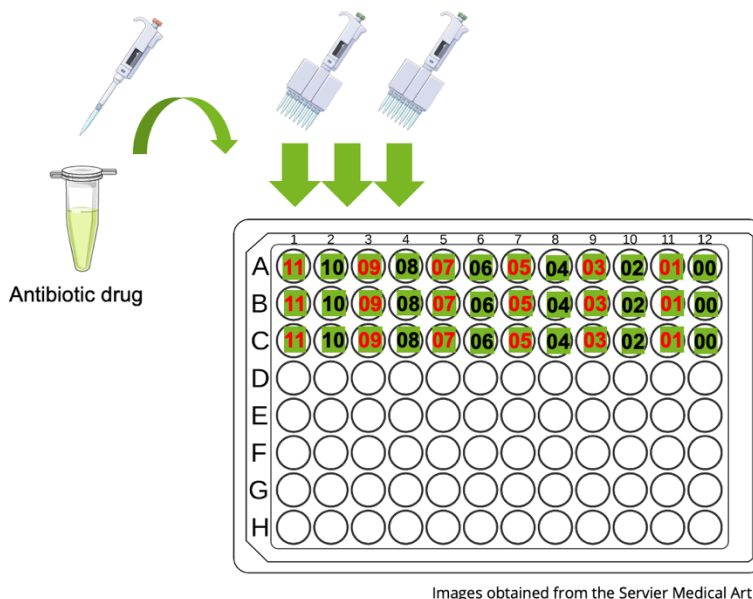

Figure 2. Experimental design and pipette scheme of IC50 determination of antibiotic drug against bacteria.
- Eleven antibiotic drug concentrations were co-cultivated with bacteria at 37 degrees for 15 hours. The bacterial growth curve was monitored every hour at 600 nm. The obtained bacterial growth from eleven concentrations of antibiotic drugs was compared to control bacterial growth without the drug in the last column. Therefore, there were twelve test samples in total (columns 1 to 12), as shown in Figure 2.
- The pipette scheme was provided in Figure 2 below.